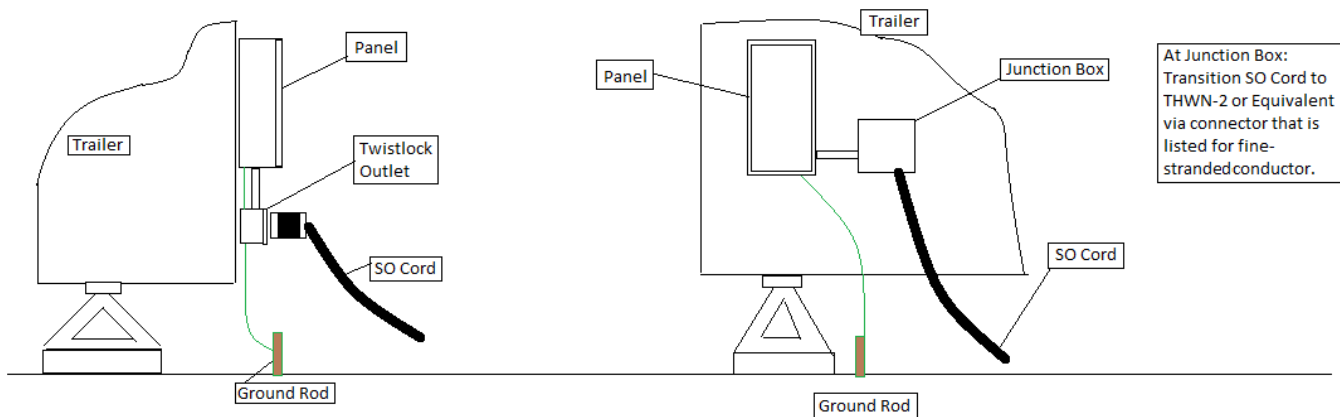

Figure CPA 011 – Suggested Connections to Panels when using Fine-Stranded Conductors
- ☐ See Figure CPA 011 for suggested connections to panels when using fine-stranded conductors.